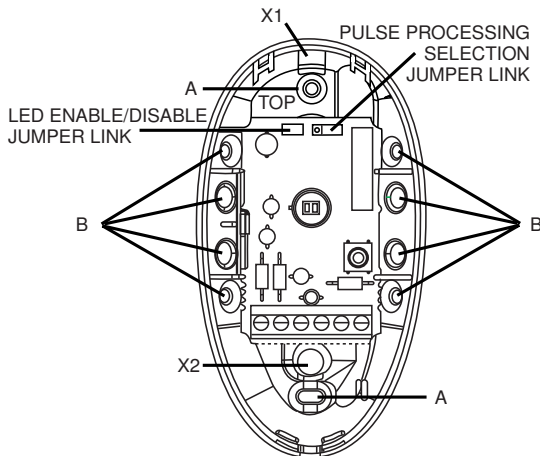

Figure 3. Detector Base
2. Refer to Figure 3. Knockout holes "A" in the base are for normal surface mounting on a wall (remove PC board for full access to holes). For corner mounting, see **B. Corner Mounting**. Also break out the desired wire entry hole at this time, marked X1 or X2 in Figure 3.
See Figure 3 for location of LED enable/disable jumper link.
See Figure 3 for location of Pulse Processing selection jumper link.